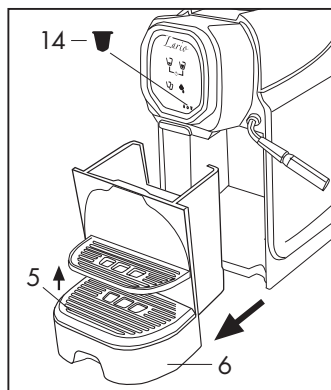
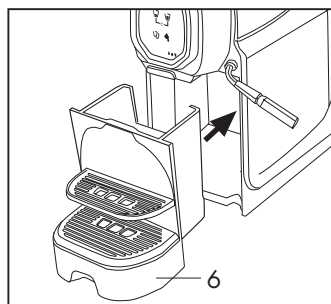

Fig. 15
Fig. 16
After 15 coffees have been delivered, the full drawer indicator light comes on (14) (VAP and 4D Model). This means that further coffee can only be delivered after emptying the capsule drawer. To do this, remove the tray (6) and empty the container. Remove the drip grid (5) (Fig. 15), wash and dry the components, then reassemble the tray (6) and replace it in its position (Fig. 16)